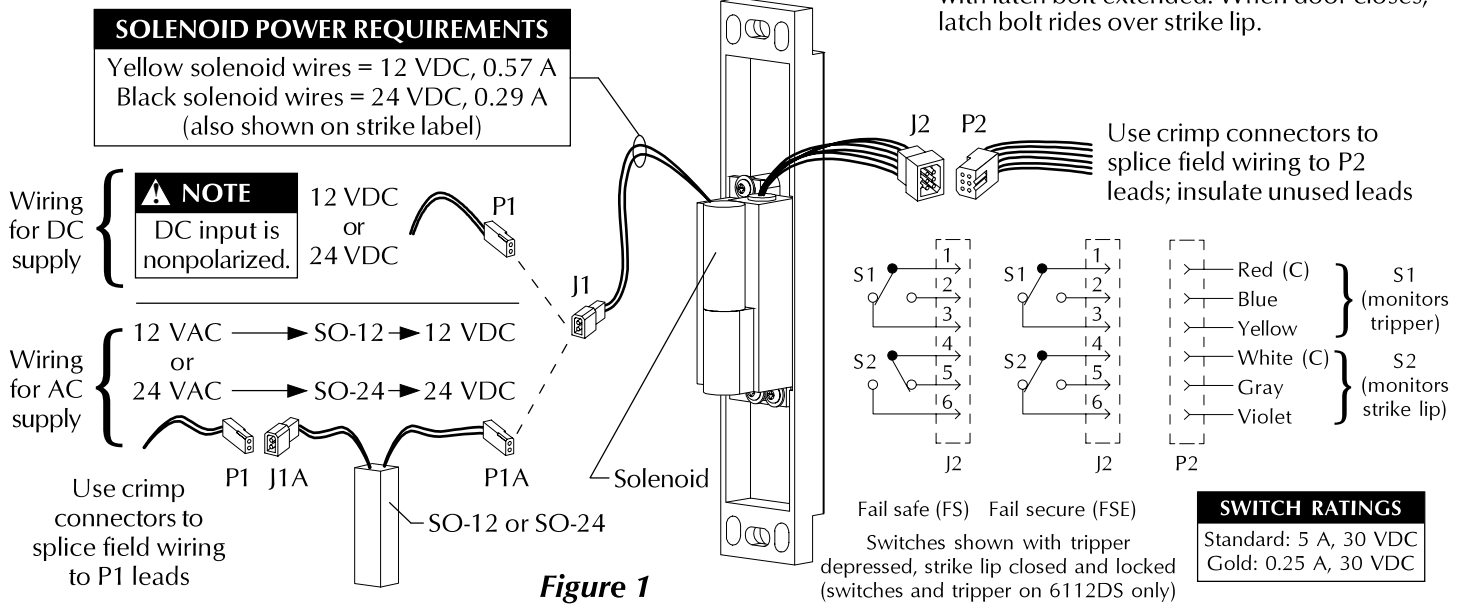

Figure 1
3. Wire strike (Figure 1). (Switches on 6112DS only.)
4. Test strike: Apply solenoid power. Fail secure (FSE) lip locks. Fail safe (FS) lip locks. Figure 1 shows status of switches.